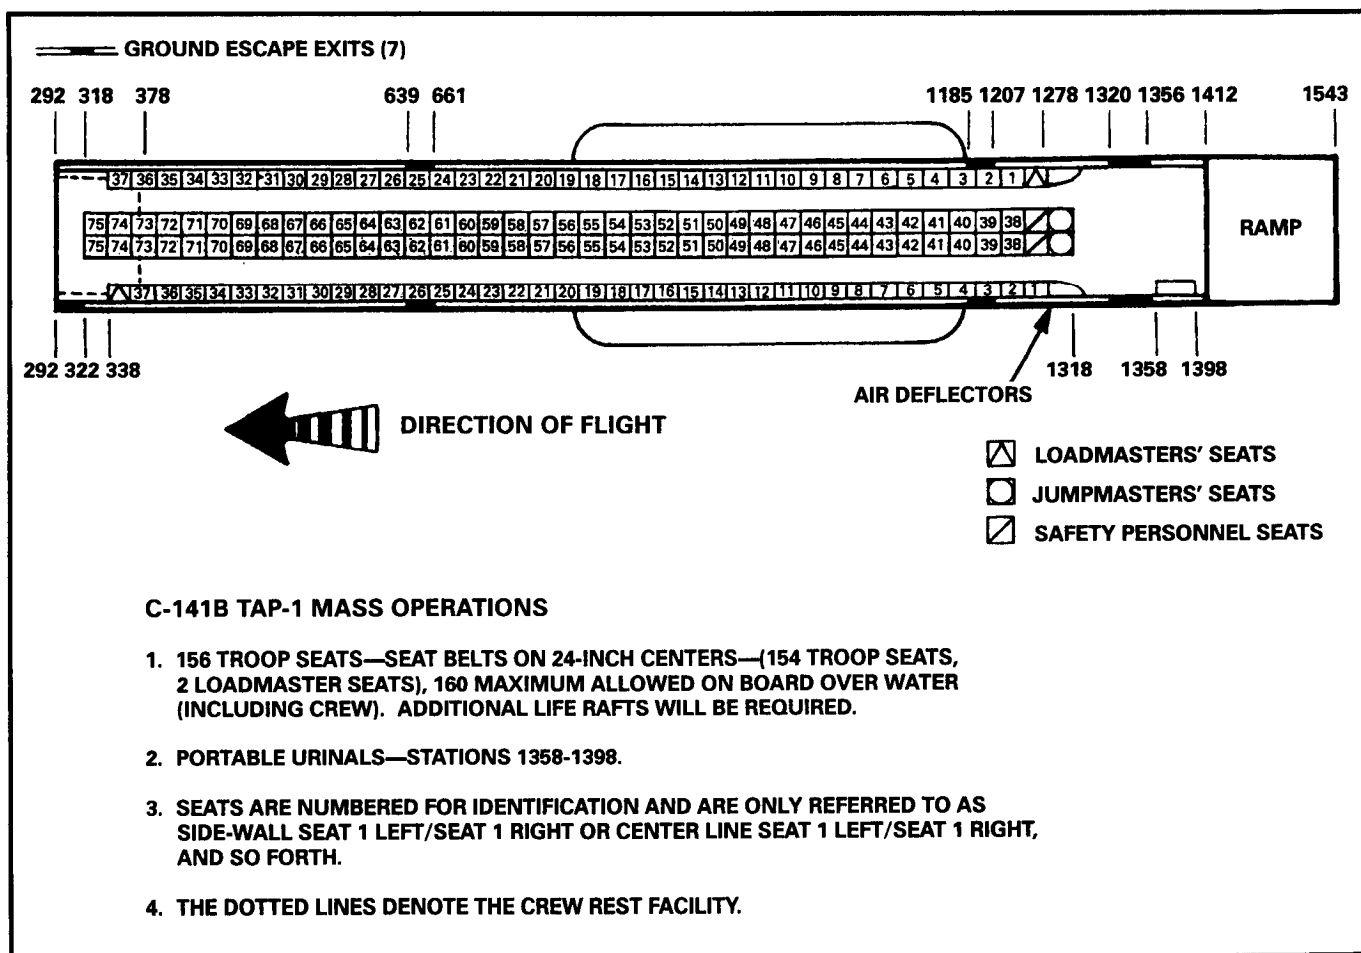

Figure 16-9. C-141B seating configuration without comfort pallet.
a. **Peacetime Training (TAP 1).** In this configuration, the C-141B seats 156 personnel: 152 parachutists, 2 static safety personnel, and 2 airdrop qualified loadmasters (Figure 16-9). The maximum number of personnel for each anchor cable is 45.